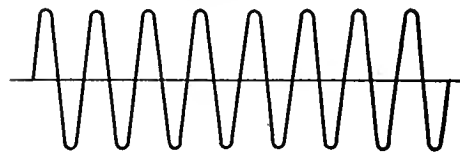

FIG. 2
through the main or common ammeter (1) remains sensibly constant, while that of the ammeter (2) in the modulator branch varies at audio frequency, the current through the ammeter (3) in the oscillator branch must vary correspondingly, as an inverted image of the modulating currents. (D. C. ammeters in these leads will show a constant reading, which is the *mean* plate current; only an oscillograph could follow the audio-frequency variations.) The last variation continuously affects the amplitude of the carrier. Thus the carrier, which when blank, or unmodulated, appears as in Fig. 2, is narrowed and widened according to a modulation "envelope," as in Fig. 3. This envelope is the audio variation which it is desired to impress on the carrier, and which will be reproduced after rectification or demodulation in the receiver.